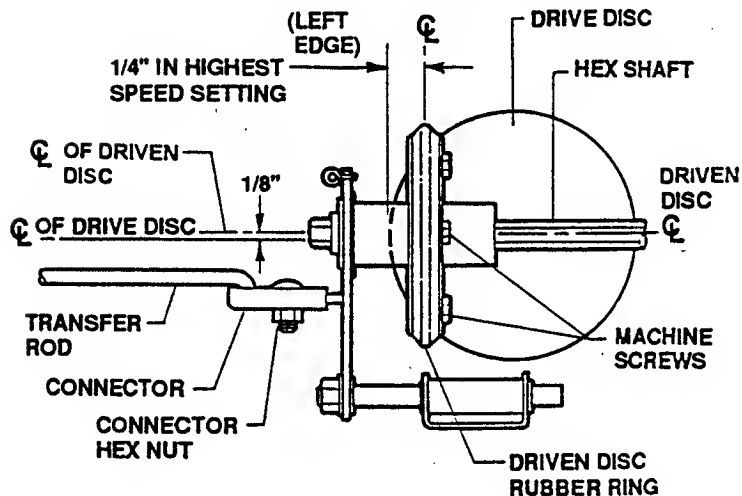

FIGURE 3.14
4. Check the tracking point—the tracking point is where the rubber ring contacts the drive disc's surface at a point 1/8" in front of an imaginary reference centerline crossing through the center of the drive disc. Refer to Figure 3.14.